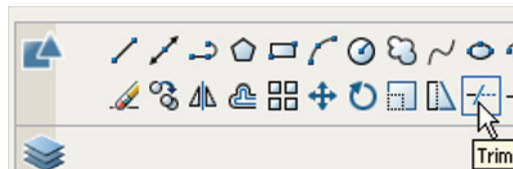

Fig. 5.30 The **Trim** tool icon from the **2D Draw** control panel
2. Call **Trim** – either *left-click* its tool icon in the **2D Draw** control panel (Fig. 5.30), or *pick* its tool icon in the **Modify** toolbar, or *pick* **Trim** from the **Modify** drop-down menu, or *enter* **tr** or **trim** at the command line, which then shows: